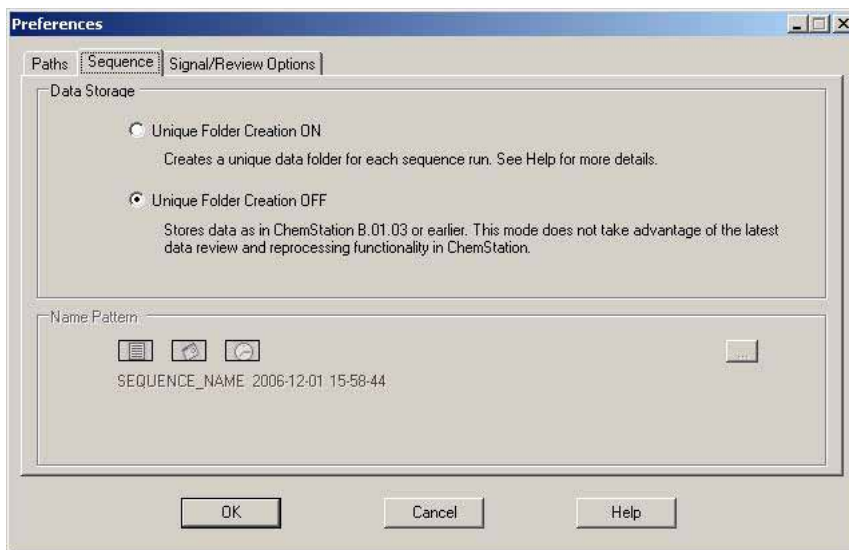

Figure 20 Preferences Dialog / Sequence Tab
In order to allow working with a data storage concept as in ChemStation revisions before B.02.01, the Sequence tab of the Preferences dialog box a Data Storage section. Here you can choose between “Unique Folder Creation ON” and “Unique Folder Creation OFF” (Figure 20). Per default, “Unique Folder Creation ON” is selected. “Unique Folder Creation ON” enables the data storage concept as outlined in the three chapters above.
- Sequence data are not acquired into a sequence container, but directly into the subdirectory as specified in the Sequence Parameters (Figure 3 on page 15). Therefore, the sequence name pattern is grayed out on the Sequence tab of the Preferences dialog (Figure 20 on page 37).